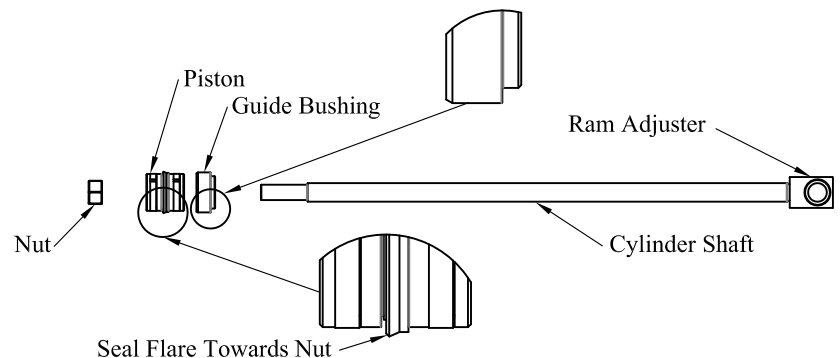

Figure 7: Cylinder shaft assembly.
9. **Install** the guide bushing on the cylinder shaft as shown in (Figure 7).
10. **Install** the piston and nut in the order and orientation shown in (Figure 7).